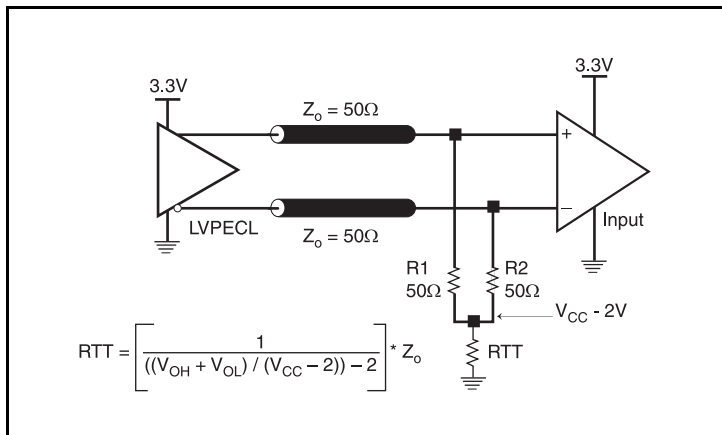

Figure 5A. 3.3V LVPECL Output Termination
*Figure 5A* and *Figure 5B* show two different layouts which are recommended only as guidelines. Other suitable clock layouts may exist and it would be recommended that the board designers simulate to guarantee compatibility across all printed circuit and clock component process variations.